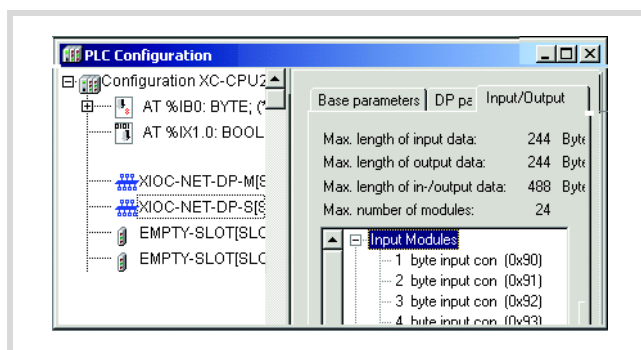
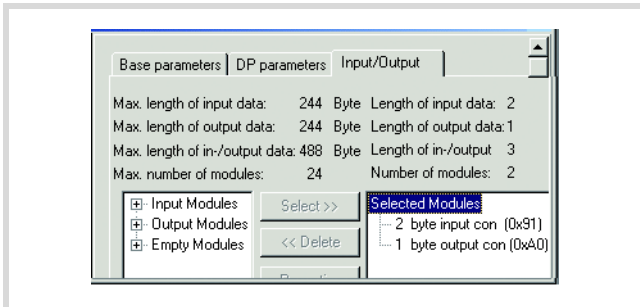

Figure 79: Selection of the inputs/outputs
Figure 80: Parametric programming of the inputs/outputs
- ▶ Select in the "Inputs/Outputs" tab (→ figure 79) the inputs/outputs for the slave, so that it corresponds to Figure80.
The selection of the modules including their identity (e.g. 0x91) and their sequence must correspond with the selection in the DP-M/DP-S module, → figure 80.